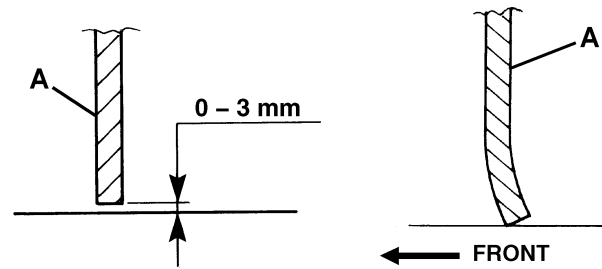

Figure 14
4. Check that distance from the ground of the side skirts (13 and 14) is within 0 – 3 mm (A, Fig. 14). If necessary, adjust the skirt height according to the following procedure.
- The distance from the ground of the rear skirt (A, Fig. 14) is within 0 - 3 mm (as shown in the figure).